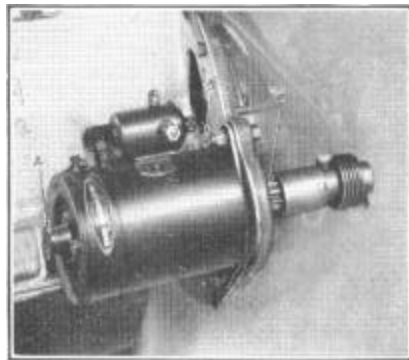

Figure 3
The front and rear starting motor bearings are provided with oilers (A) and (B), Figure 3, and should be lubricated with a few drops of engine oil every 1,000 miles. Avoid over-oiling.